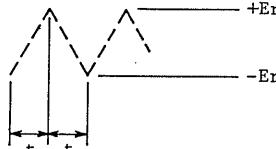

Figure 4-4
Denoting by  $I$  the constant current with which the integrating capacitor  $C$  is charged and discharged, by  $\pm E_r$  the reference voltage of the voltage comparator, and by  $t$  the period from  $+E_r$  to  $-E_r$  as shown in Figure 4-4, equation (1) can be written.
The oscillating frequency can be written as follows referring to Figure 4-4.